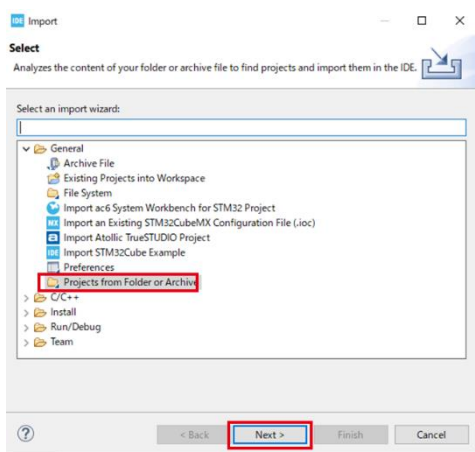

Fig. 6.6 Import wizard
- (d) Select "Projects from Folder Archive" and click "Next" as shown in Figure 6.6.